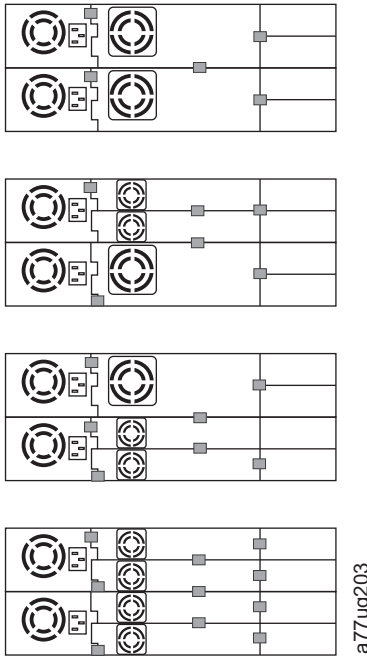

Figure 152. Drive sled taping diagrams
- h. If a drive sled without ESD springs is installed (see Figure 151), apply conductive tape as shown in Figure 152 on page 194.